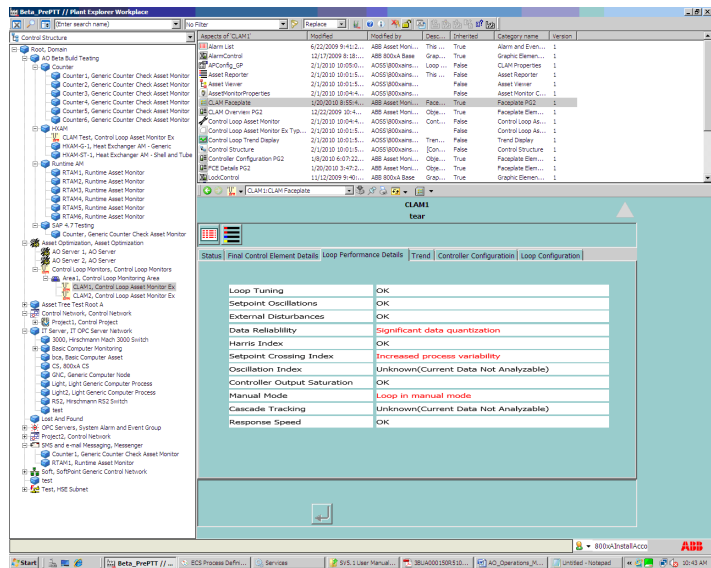

Figure 51. Loop Performance details (Licensed)
- **Loop Performance Details (Figure 51):** Used to view Control Loop Asset Monitor summary results. It shows various parameters details of FCE as shown
in Figure 51 with diagnosis as tool tip text.